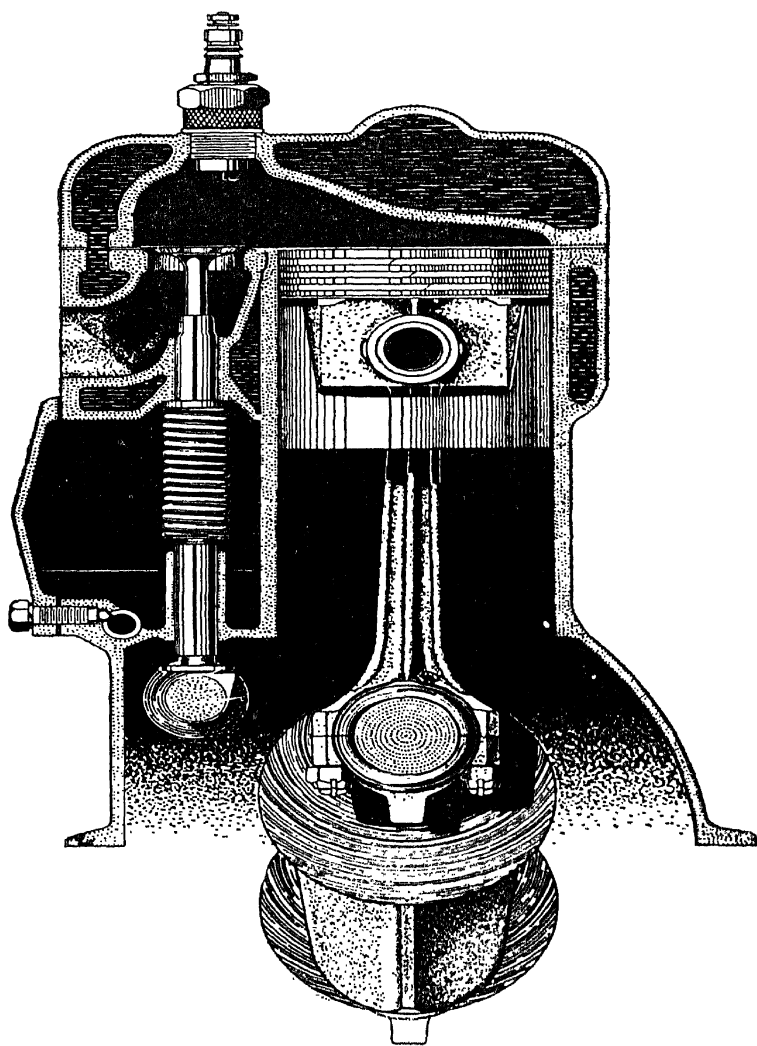

Fig. 1. Section through Ford Model A, L-Head Engine.
design, T-head design, and F-head design. These letters are used to designate the form of the cylinder as it would appear if the cylinder was sectioned, as indicated in Fig. 1, this being a cross section of an L-head engine.
**L-Head Engine.** This is the most common practice in engine construction. It is, perhaps, the simplest and at once the cheapest in production. L-head engines are quiet in operation and are long lived. Fig. 1 shows the conventional construction of the L-head or, as the English call it, the side-valve engine. It will be noted from this illustration that the valve rests on the valve lifter, which in turn rests on the cam which is integral with the camshaft. The